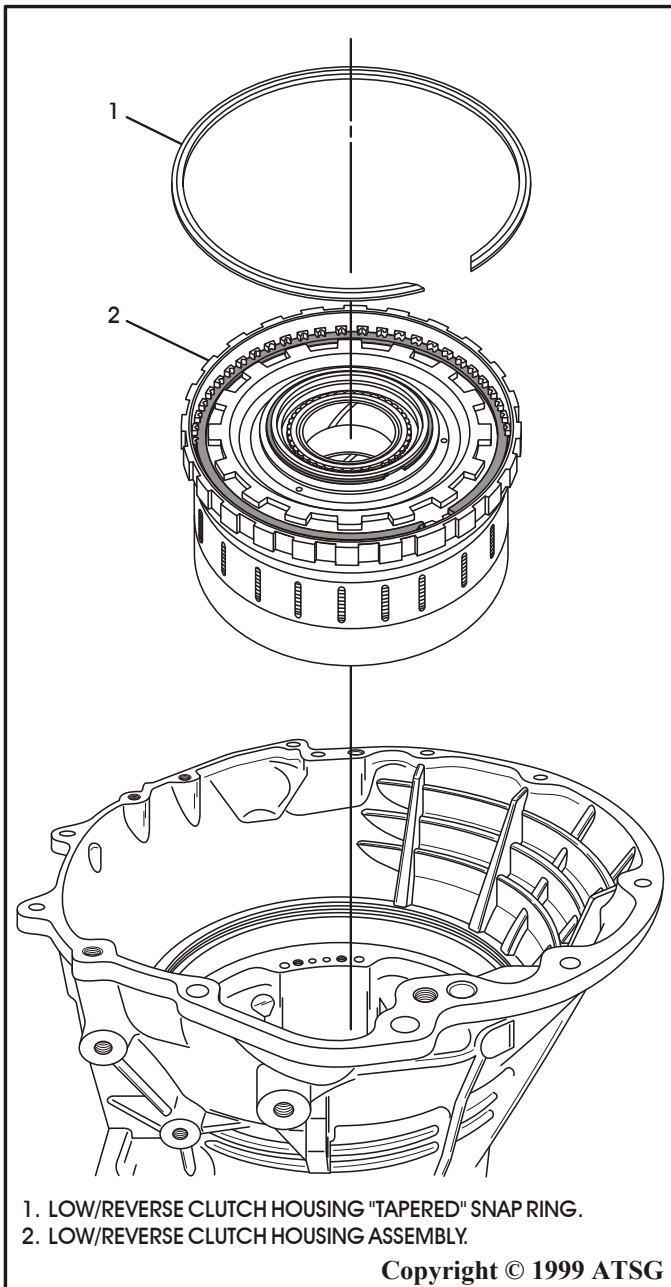

Figure 111
12. Install the low/reverse clutch housing into the transmission case as shown in Figure 111. The clutch housing has one lug that is wider than all the rest to orient it in the case with the feed hole toward the valve body.
13. Install the *tapered* snap ring into the groove in the case just above the low/reverse housing and ensure that it is fully seated (See Figure 111).